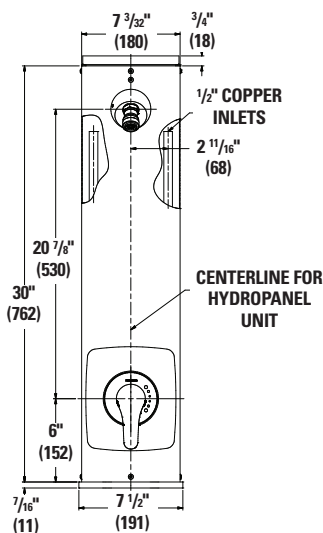

Figure 1: Front dimensions,
1. See Figure 1, 2 & 3 to determine the horizontal position of the unit according to shower room layout and mark the centerlines. For multiple shower applications, the recommended minimum distance between the centerlines of the two units is 36 inches (914 mm).